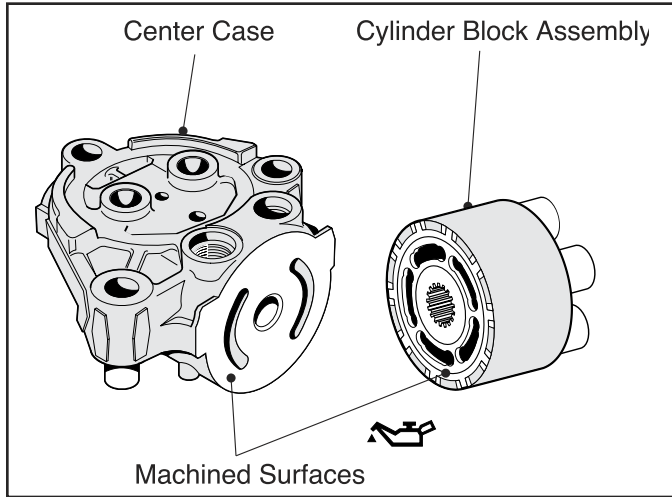

Fig. 32, Machined Surfaces—Center Case/Cyl. Blk
1. Apply a film of clean oil to the machined surface of the Center Case and to the mating surface of the Cylinder Block. (Fig. 32)